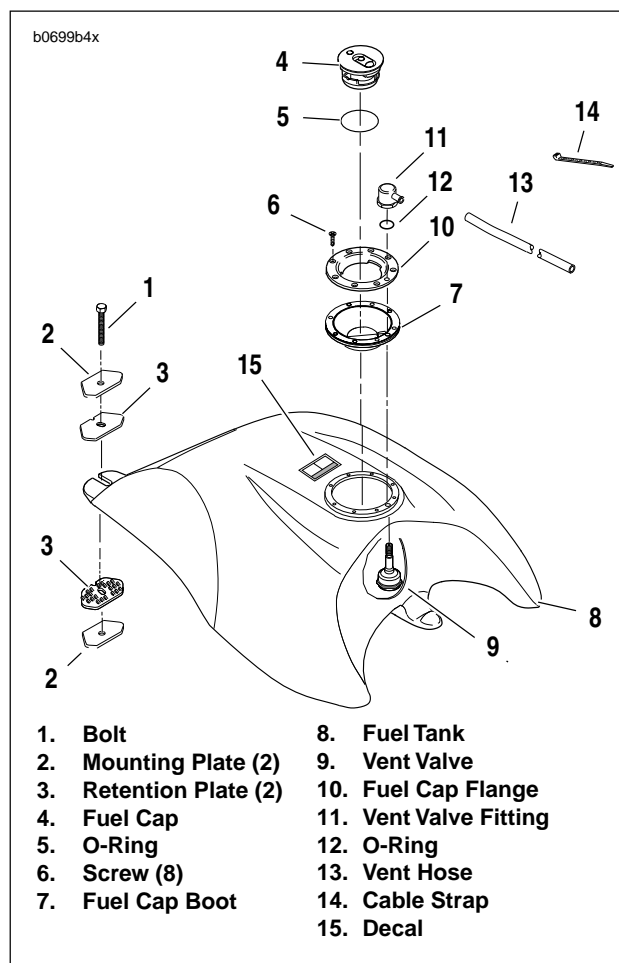
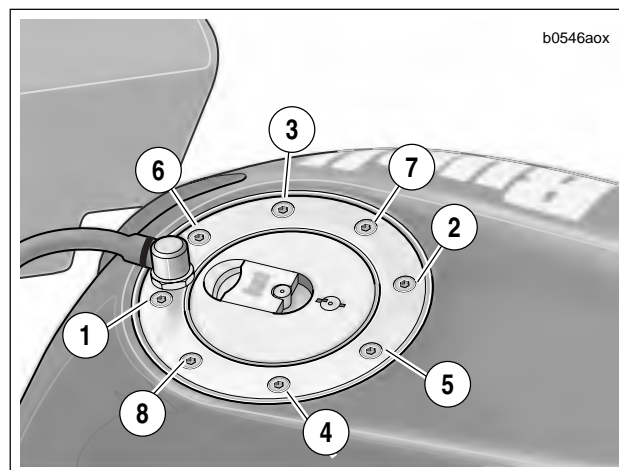

Figure 4-84. Fuel Tank
Figure 4-85. Tightening Sequence
2. See Figure 4-84. Remove fuel filler cap (4) with attached O-ring (5).
3. Remove screws (6) from fuel cap flange (10).
4. Remove fuel cap flange and fuel cap boot (7).
5. Detach vent valve fitting (11) and vent valve (9) from fuel cap flange.
- b. See Figure 4-85. Tighten screws to 22-25 in-lbs (2.5-2.8 Nm) in the order shown.
1. See Figure 4-84. Carefully raise the back of the fuel tank and place a mounting plate and a retention plate in position on the frame. Make sure shorter straight side of both retention plate and mounting plate face to rear of vehicle.
4. See Figure 4-84. Install mounting bolt and tighten to 18-23 ft-lbs. (24-31 Nm).
6. See Figure 4-84. Connect vent hose (13) to vent valve fitting (11). Clamp hose to fitting with a **new** cable strap (14).
4. See Figure 4-84. Cut cable tie holding vent hose to fitting and remove vent hose from fuel tank.
4. See Figure 4-84. Install **new** O-ring in groove on bottom of **new** fitting.
8. See Figure 4-84. Attach vent hose to nozzle on fitting with **new** cable tie.